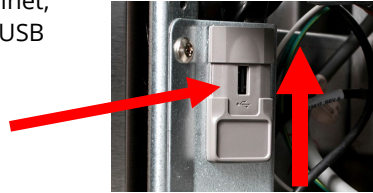

Figure 1
- INSERT USB.** The USB port is located inside the far-left cabinet, on the left-hand side. Slide or lift the cover up to reveal the USB port (see Figure 1).